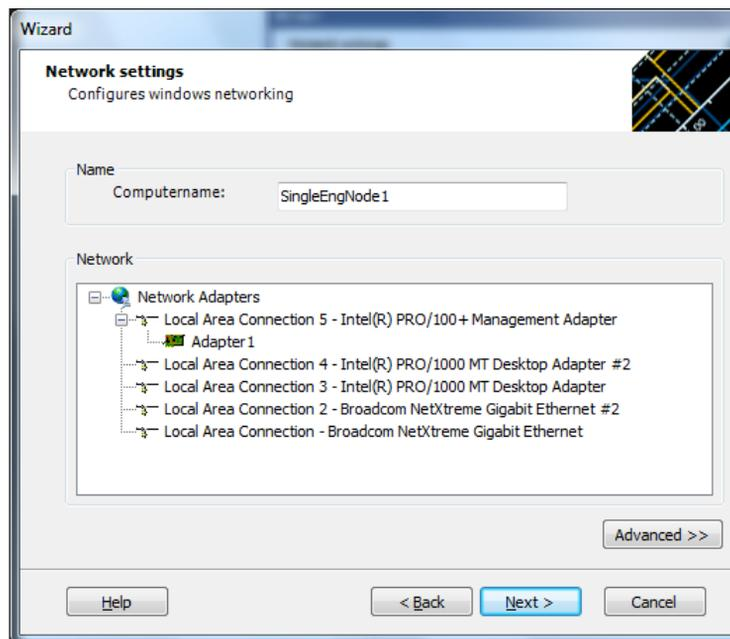

Figure 36. Network Settings Dialog Box (Simple View)
2. Select the network adapter to be configured. Use the Simple View of the Network Settings dialog box (Figure 36) to: